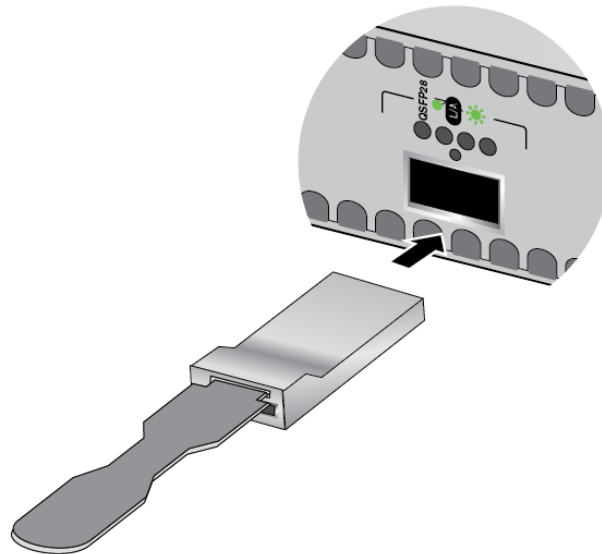

Figure 132. Installing 100Gbps QSFP28 Transceivers in XEM2-1CQ Line Cards
- ❑ 100Gbps QSFP28 transceivers for XEM2-1CQ Line Card: refer to Figure 132 on page 233.